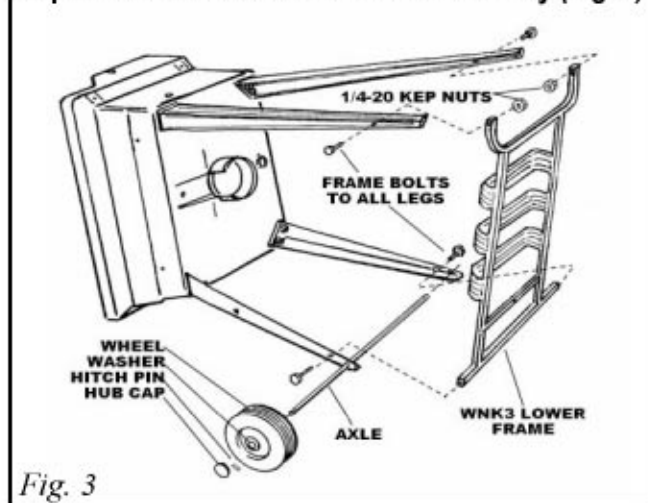
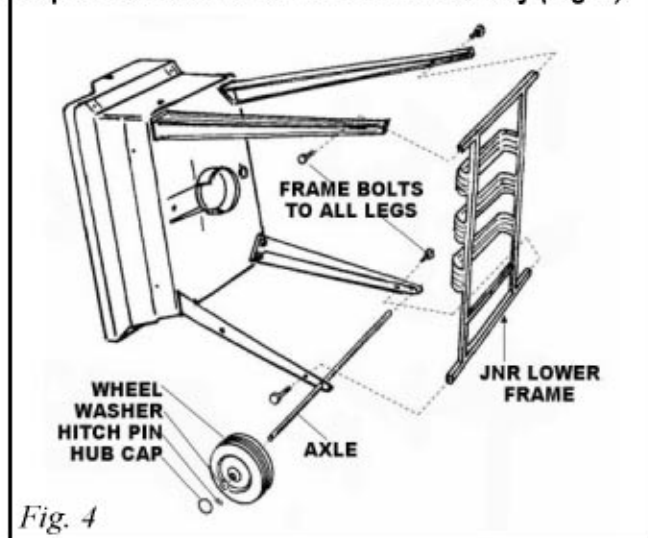

Fig. 3
Fig. 4
1. Bolt shelf to the (4) legs as follow:
(A) WCP and WCN (Fig. 3) carts uses (2) 1/4-20x 1-1/2" slotted bolts and Kep nuts to fasten the frame to the long legs and (2) 1/4-20x3/4" slotted head bolts to fasten the frame to the short legs.
(B) JCP and JCN (Fig. 4) carts use (4) 1/4-20x 3/4" slotted head bolts to fasten the frame at all 4 corners.
2. Install (1) axle hitch pin into the small end hole and install washer. Slide (1) wheel onto axle, hub-cap side out.
**Step 3: WCP3/WCN3 Lower Shelf Assembly (Fig. 3)**
**Step 3: JCP3/JCN3 Lower Shelf Assembly (Fig. 4)**